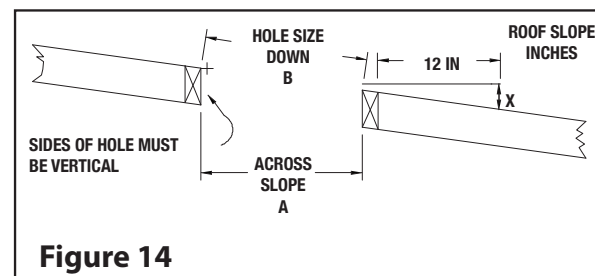

Figure 14
Step 1: Locate the chimney in a convenient location as near as possible to the appliance outlet. Cut and frame an opening in the roof for the support (see Table 5). The sides of this hole must be vertical (see Figure 14).